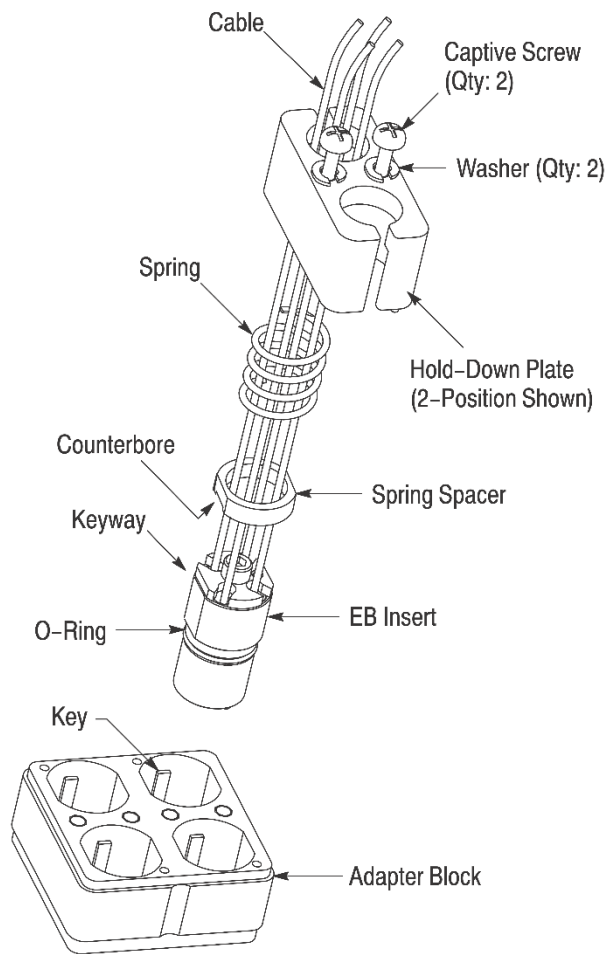

Figure 4
1. Slide the spring spacer (with the counterbore facing the EB insert) and spring against the EB insert. Refer to Figure 4.
2. Slide the slot of the hold-down plate over the cable as shown in Figure 4. If the hold-down plate has multi-positions, load all positions with their respective EB inserts in the same manner.
3. Align the keyway of each EB insert with the respective key of the adapter block, then push each EB insert into the respective cavity. See Figure 4. There will be a momentary resistance